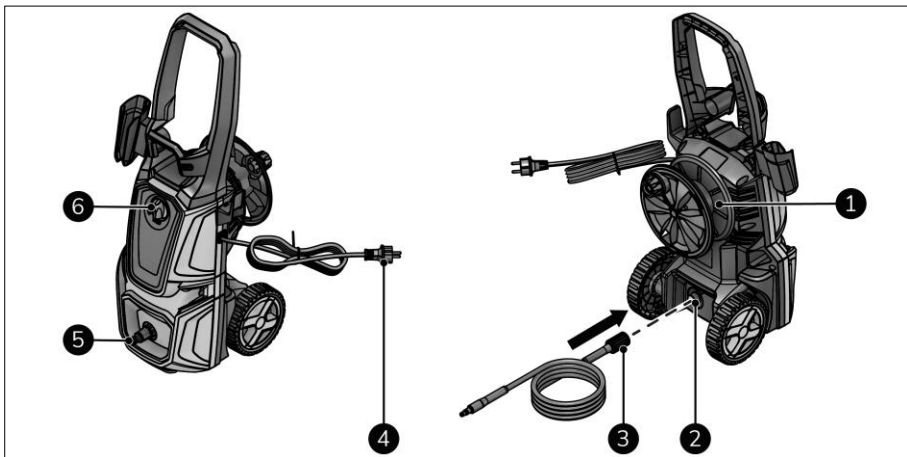

Figure 10
2. Make sure the ON(I)/OFF(0) switch is in the OFF(0) position (Figure 10, pos. 6).
3. Place the power plug (Figure 10, pos. 4) into a socket that is easily accessible.
4. For the first use only: remove the protective cap from the high-pressure water outlet (Figure 10, pos. 2).
5. Unroll the high-pressure water hose from the hose reel (Figure 10, pos. 1).
6. Screw the high-pressure hose (Figure 10, pos. 3) to the high-pressure water outlet.
7. Connect the water supply to the device (Figure 10, pos. 5).